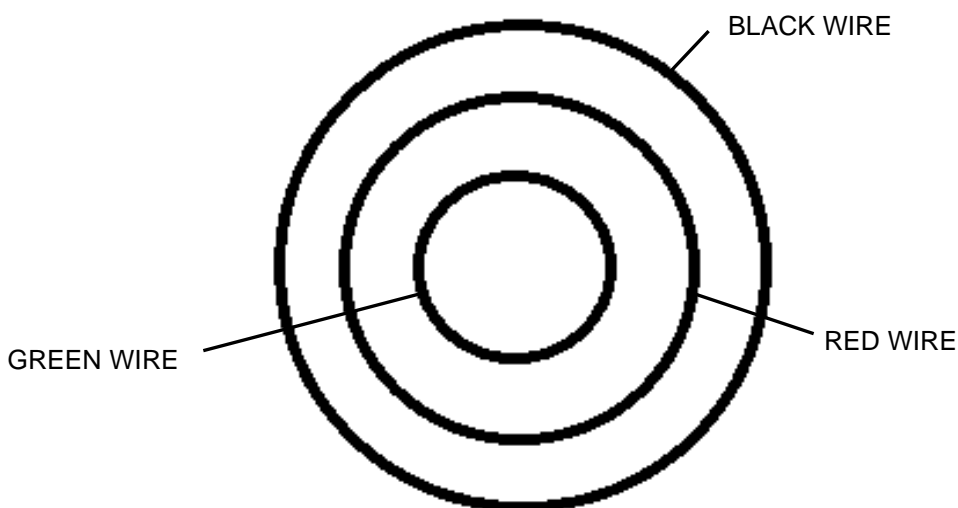

Figure 55: Airmaster propeller signal wire to slip-ring disc connection.
- Ensure that the electrical signal wire connections are secure and correct (i.e. a specific coloured wire on the propeller / propeller extension side connects to the correct slip-ring / terminal on the slip-ring disc (as marked upon removal or refer to Figure 55).